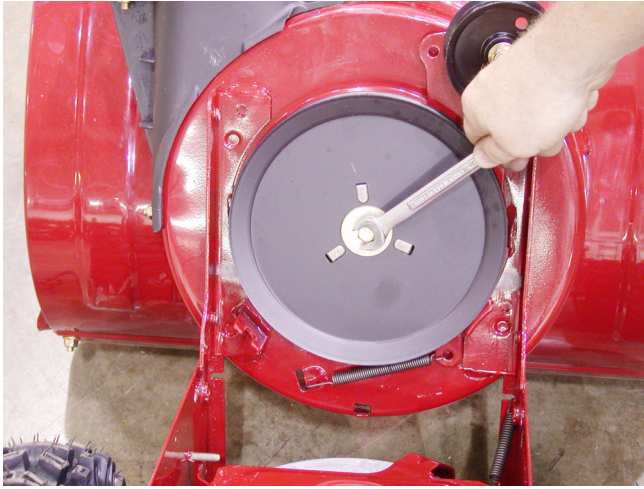

Figure 14.5
- 14.5. Remove the bolt that attaches the auger pulley to the auger shaft with a 9/16" wrench. See Figure 14.5.